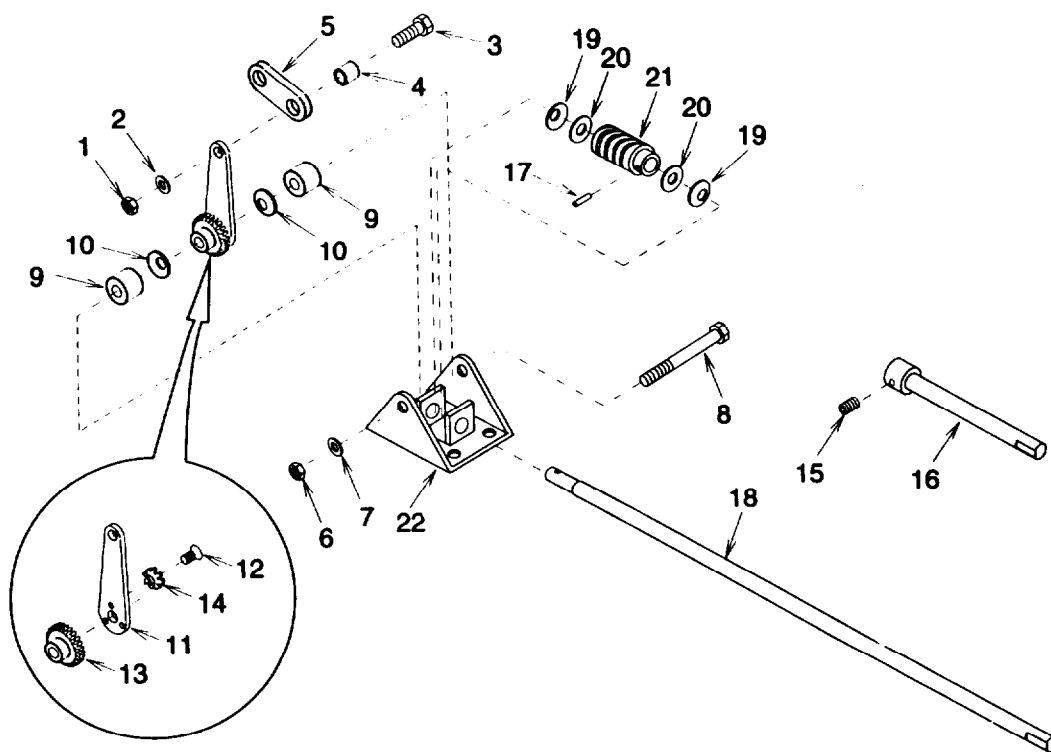

Figure 3-25. Rod, Arm, and Worm Gear Assembly
b. Disassembly.(1) Rod, Arm, and Worm Gear Assembly.
- (a) Remove self locking nut (1) Figure 3-25, flat washer (2), screw (3), bushing (4), and arm (5). Discard self locking nut.
- (b) Remove self locking nut (6), flat washer (7), screw (8), two spacers (9), two spring washers (10), and arm (11) assembly. Discard self locking nut and spring washers.
- (c) Remove screw (12), worm wheel gear (13), and lock washer (14). Discard lock washer.
- (d) Remove setscrew (15) from extension rod (16).
- e) Remove spring pin (17), rod (18), two spring washers (19), two flat washers (20), and worm gear (21). Discard spring pin and spring washers.
(1) Rod, Arm, and Worm Gear Assembly.
- (a) Insert rod (18) Figure 3-25 into first support on bracket (22).